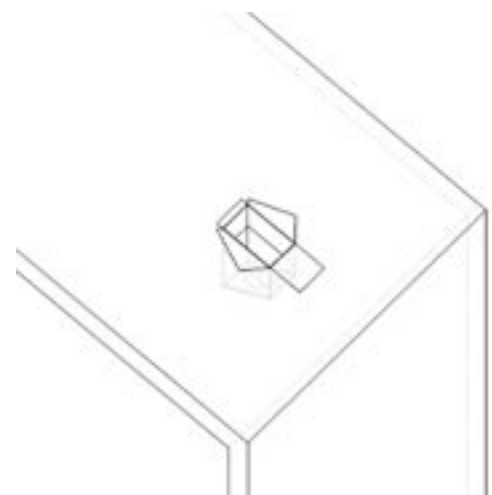

Figure 20
7. Using tin snips, cut the Support Box from the top corners down to the roof line, and fold the resulting flap over the roof sheathing. Before nailing it to the roof, run a bead of non-hardening sealant around the outside top edges of the Support Box so as to make a seal between the box and the roof. Clean out any combustible material or debris from inside the Support Box. See Figure 20.